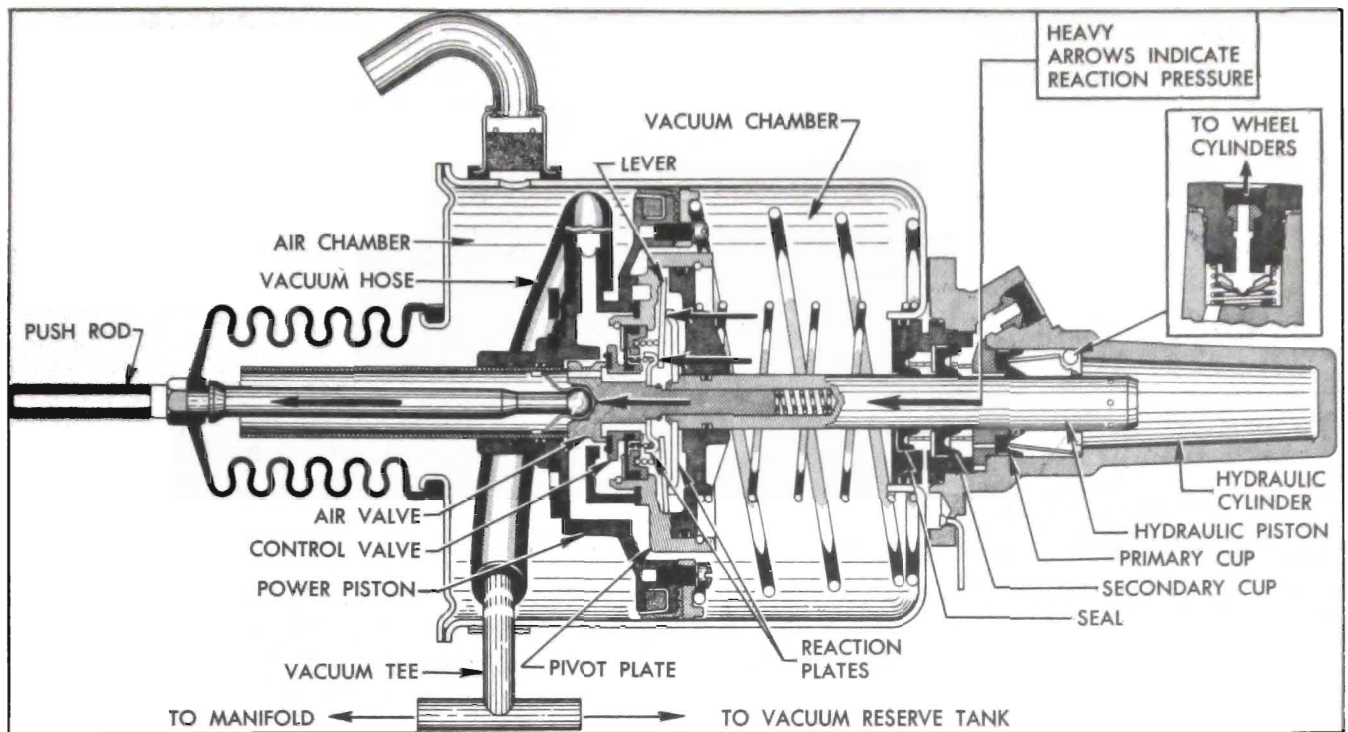

Figure 9-14—Applied Stage, With Reaction Pressure
(2) *Applied Stage*. See figure 9-14. As the brake pedal is depressed the push rod moves the air valve rearward until its annular seat contacts the floating control valve, at which point atmospheric pressure is sealed off from the *vacuum* chamber. Further movement of the air valve pushes the floating control valve away from its seat on the power piston, thus connecting the *vacuum* chamber to manifold vacuum through passages in power piston and the attached vacuum hose. As air is exhausted out of the *vacuum* chamber, atmospheric pressure in the *air* chamber moves the power piston rearward toward the hydraulic cylinder. The
(3) *Reaction Pressure*. As pressure is built up in the brake pipes and wheel cylinders during brake application, the hydraulic piston is subjected to the same pressure. Since the piston is free to move forward in the pivot plate cover, the pressure on the piston is transmitted through the attached reaction plate to the six reaction levers. The outer ends of the levers press against pivot points in the pivot plate and the inner ends press against the valve reaction plate which now bears against a shoulder of the air valve. See figure 9-14.
If the engine should start running while brakes are being manually applied, manifold vacuum would exhaust air from the *vacuum* chamber through the wide open passages in the power piston, and the power piston would move rearward and seal to the pivot plate as shown in figure 9-14.